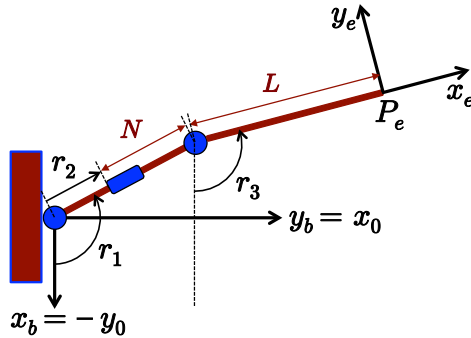
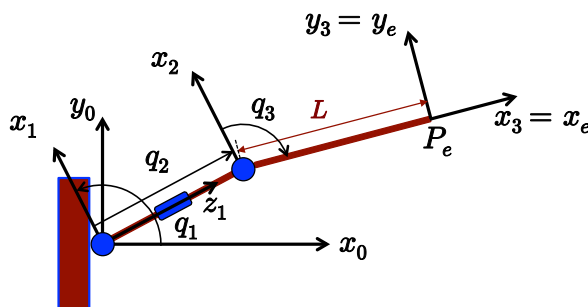

Figure 1: A RPR planar robot.
Figure 4: Assignment of DH frames for the RPR planar robot.
Consider the 3-dof (RPR) planar robot in Fig. 1, where the joint coordinates  $\mathbf{r} = (r_1 \ r_2 \ r_3)^T$  have been defined in a free, arbitrary way, with reference to a base frame  $RF_b$ .
Indeed, if these quantities have to be expressed with respect to the (DH) frame 0 indicated in Fig. 1, we need to introduce a constant rotation. Since the two frames have the same origin, we obtain
Keeping into account the already specified assignment of frame 0 in Fig. 1, a feasible assignment of DH frames for the RPR robot is shown in Fig. 4, with associated parameters given in Tab. 1.
Table 1: Parameters associated to the DH frames in Fig. 4.